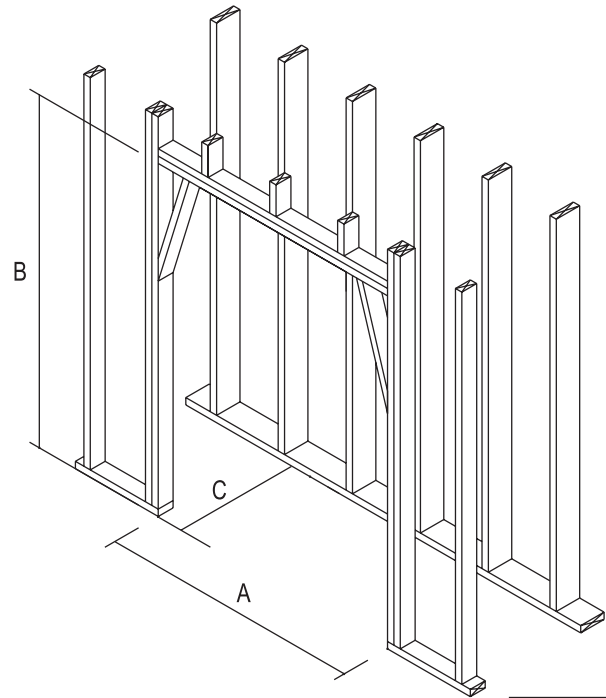

FIGURE 12
5. Rough framing dimension for depth "C" allows for the required 1 1/2" clearance at the back of the Fireplace. 26 3/4" is only for an interior wall as most exterior wall framing have insulation, even if the wall is 2x6, the foam they spray expands so typically 31" is allowed on an exterior wall (**Figure 12**).
The following chart of dimensions detail the positioning of an STANDARD Series fireplace in a corner. It also details the positioning of DM chimney where it must turn 45° degrees, if alignment is needed to overhead framing. (**Figure 12 & 13**)